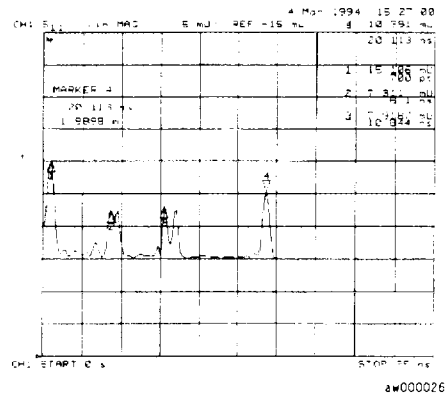

Figure 4-23. Device Response in the Time Domain
- 9 To position a marker at each reflection of interest, as shown in Figure 4-23, press: